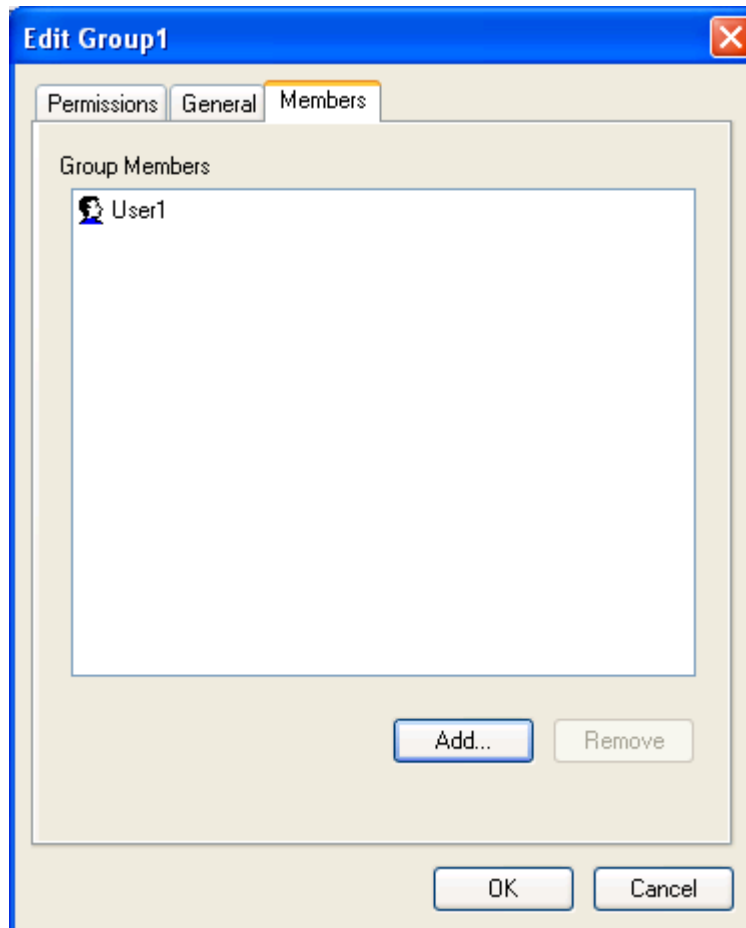

Figure 64 - Edit <Groupname> Window (Members Tab)
On the **Members** tab (Figure 64), the users that are part of the current group are defined. By default, the **Group Members** screen section is empty. In Figure 64, **User1** has been added to **Group1**.
3. Click on the **OK** button. The selected user or users appear in the **Group Members** screen section on the **Members** tab (Figure 64).